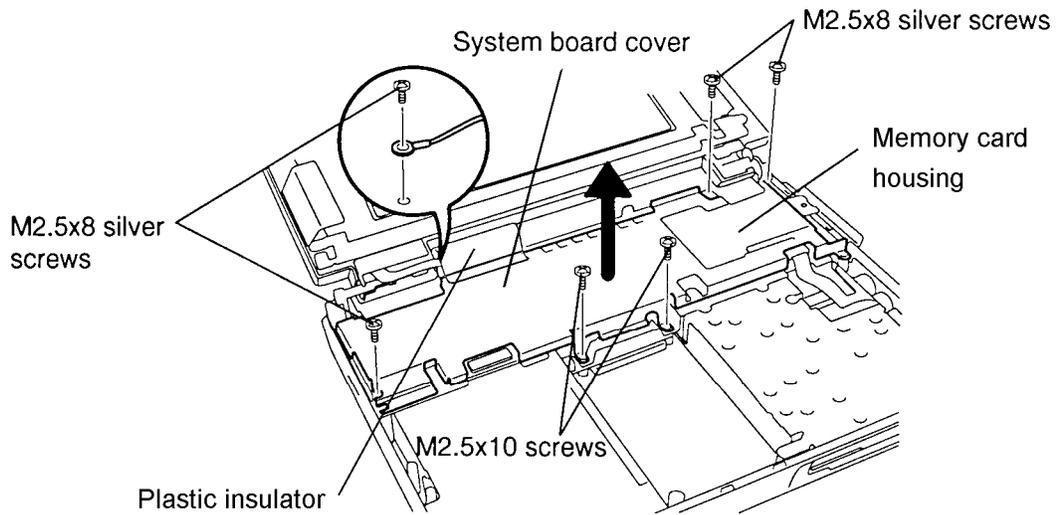

Figure 4-15 Removing the System Board Cover
5. Remove the **four M2.5x8 silver screws** and **two M2.5x10 screws** on the **system board cover** (Figure 4-15). Note that the M2.5x8 screw under the left hinge secures the ground wire.
6. Set the **system board cover** in place and secure the **display ground cable** with an **M2.5x8 silver screw** (Figure 4-15).
7. Secure the **system board cover** with **three M2.5x8 silver screws** and **two M2.5x10 screws** (Figure 4-15).
8. Place the clear **plastic insulator** over the display cables and press the insulator so that it adheres to the **system board cover** (Figure 4-15).